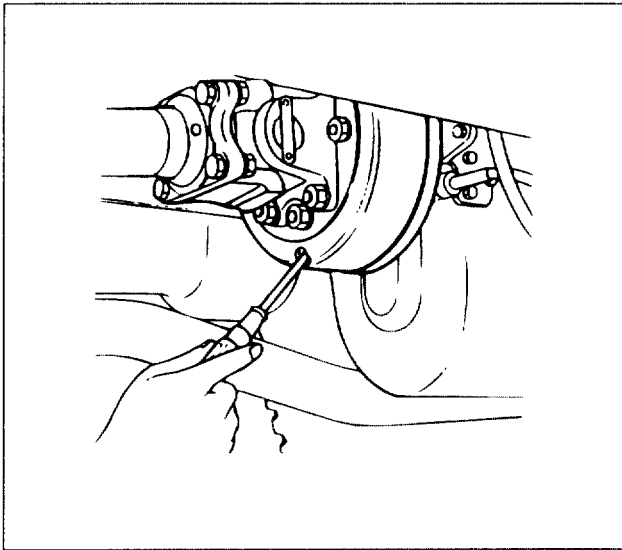

Figure 3 – Adjusting the Brake Shoes
- Insert a screwdriver in the access hole and rotate the adjuster (29) upward until the shoes (14) drag on the drum (figure 3).
- Back off the adjuster (29) as specified.